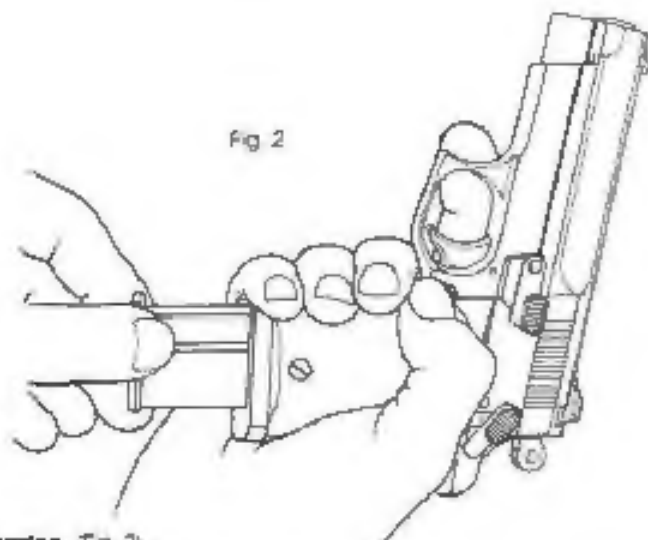

Fig 2
**To remove the magazine. (Fig 2)**